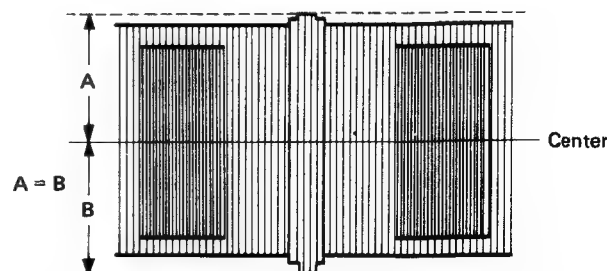

Figure 102.
3. Observe the output of I201 (pin ⑨) on oscilloscope (external trigger, TP506), and adjust R233 (carrier balance control) so that the waveform will be symmetrical with respect to its center, as shown. (Fig. 102)